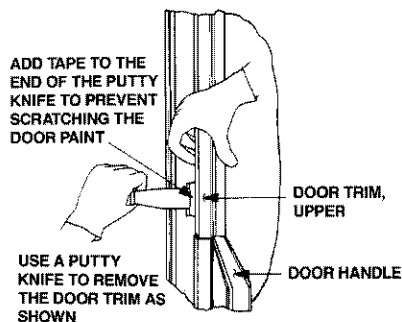

FIGURE 1
1. Loosen the upper and lower door handle trim and rotate 90°. See Figures 1 & 2.